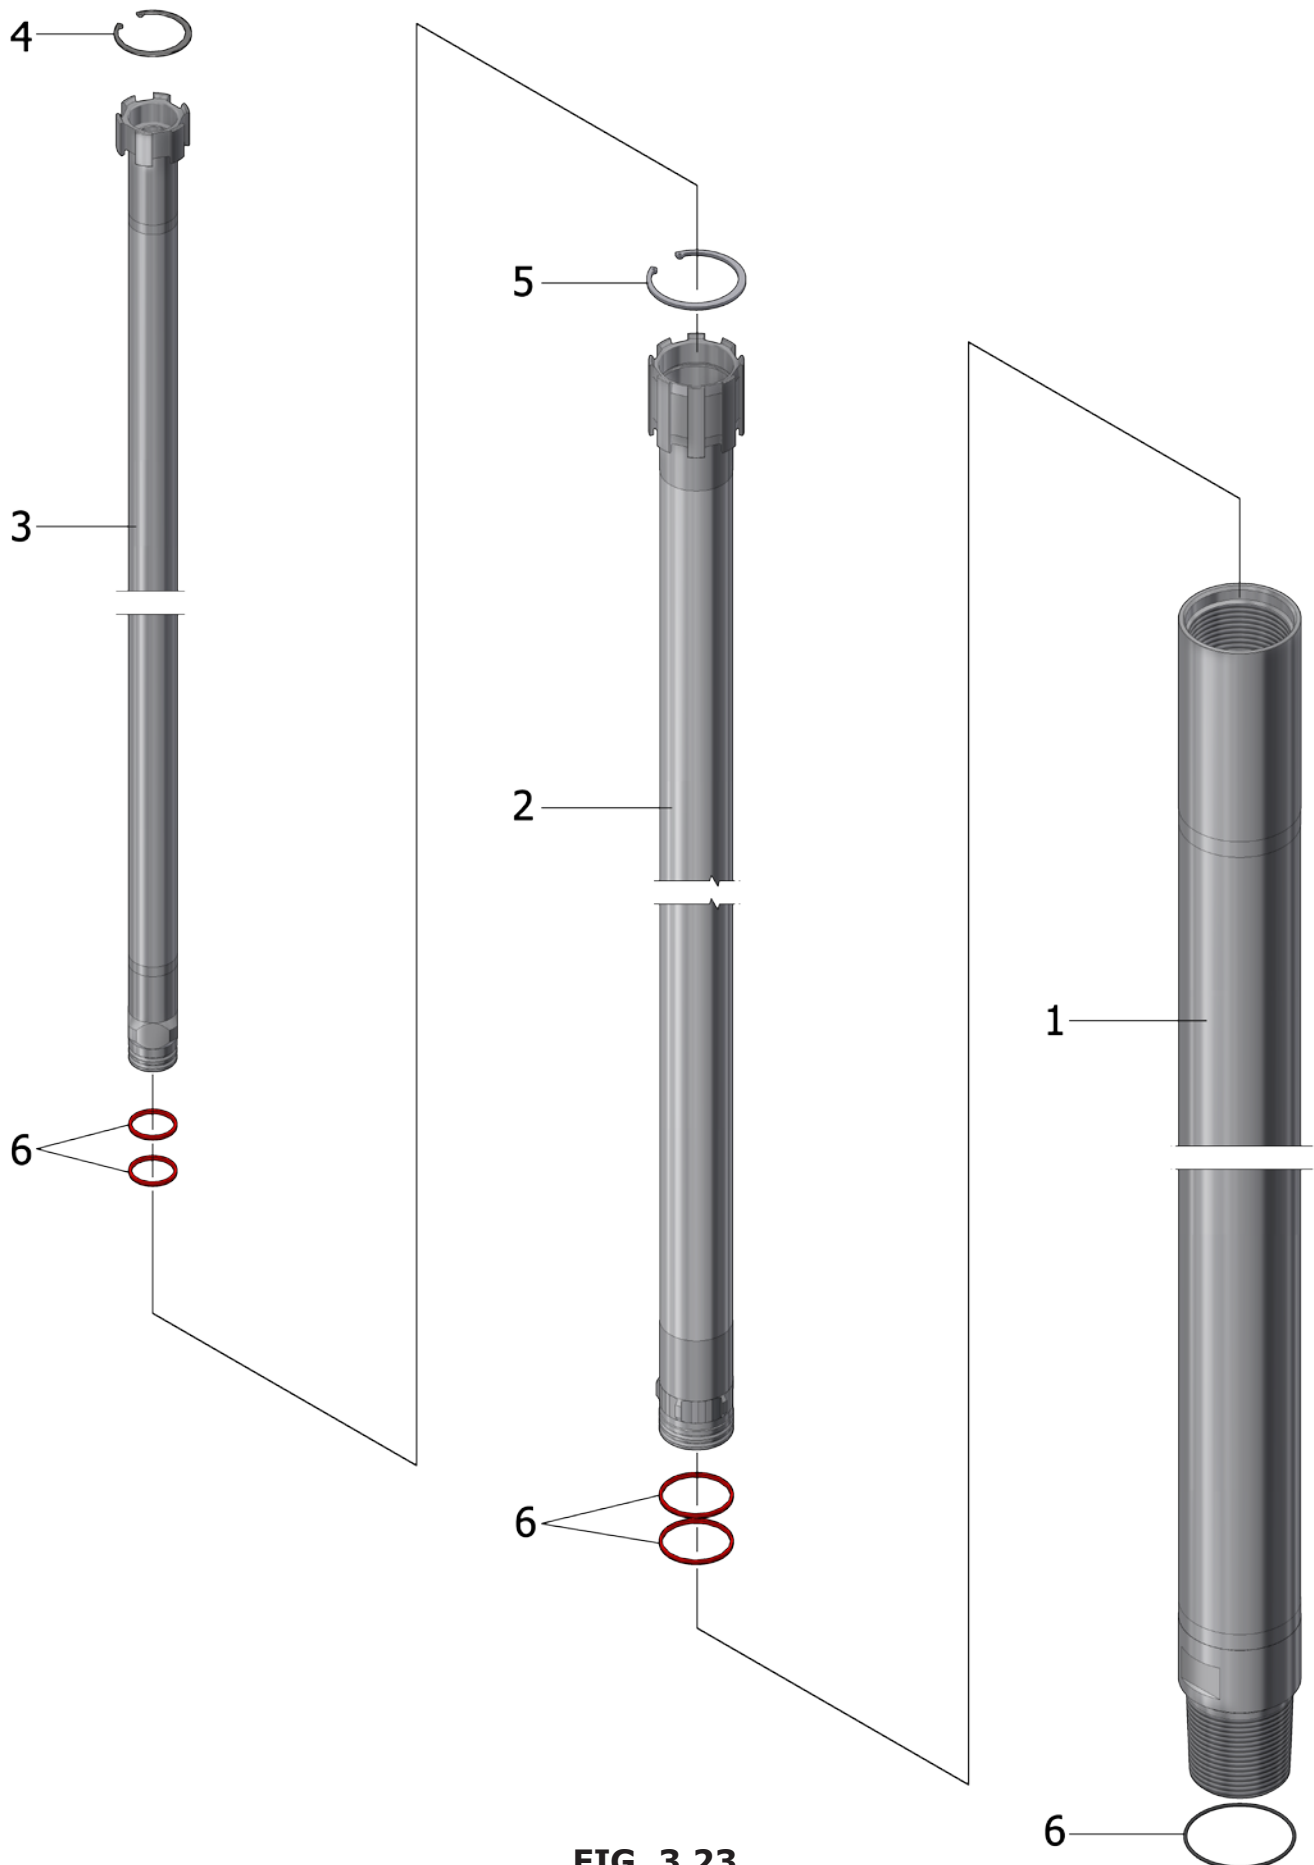

FIG. 3.23
D.127 C3 ROD: J-12C31000 (L=1000); J-12C32000 (L=2000); J-12C33000 (L=3000) (REF. FIG. 3.23)